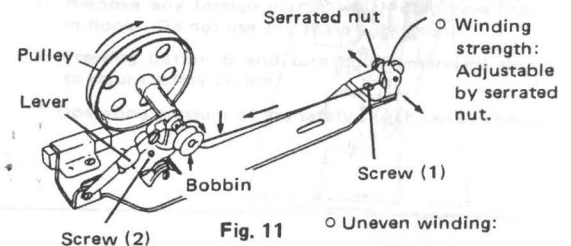

Fig. 11
2. Lead thread as shown by Fig. 11 and wind several times on bobbin.